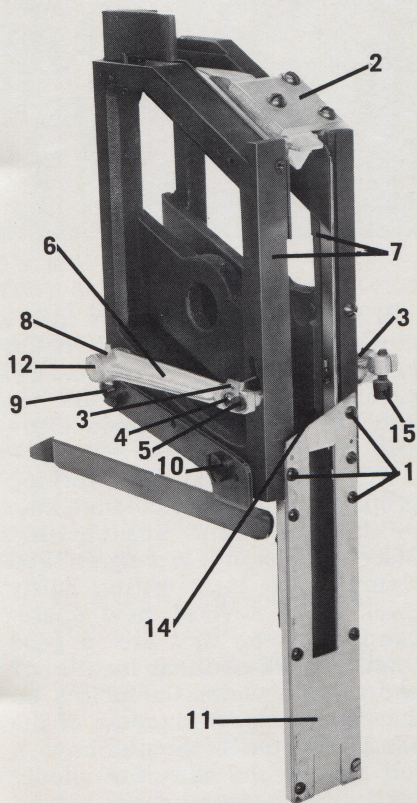

Figure 2
After the box has been removed from the machine, clamp it in a vise. Referring to Figure 2, remove the three 4-48 round head screws securing the long chute plate to the spaceband box casting (1). Then remove the center plate (2) by removing the two 8-32 fastening screws. Remove the pawl lifting screws (4), spring fastening screws (5) and pawl springs (3) from both front and back spaceband box levers (6). Now both pawls (7) are loose and may be removed for inspection later. With a small pin punch drive out the tapered pin (8) located in the spaceband lever (6). Remove lever (6) from the shaft and then remove the two fastening screws (9) and (10). Now the spaceband box castings can be separated.